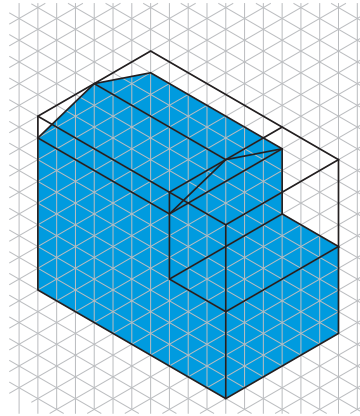

Figure 3-17. Add and remove lines to shape the house. See how points on the grid are used to draw the roof lines.
2. Construct the basic shape of the house by removing a corner of the box. Add lines for the roof. See **Figure 3-17**.